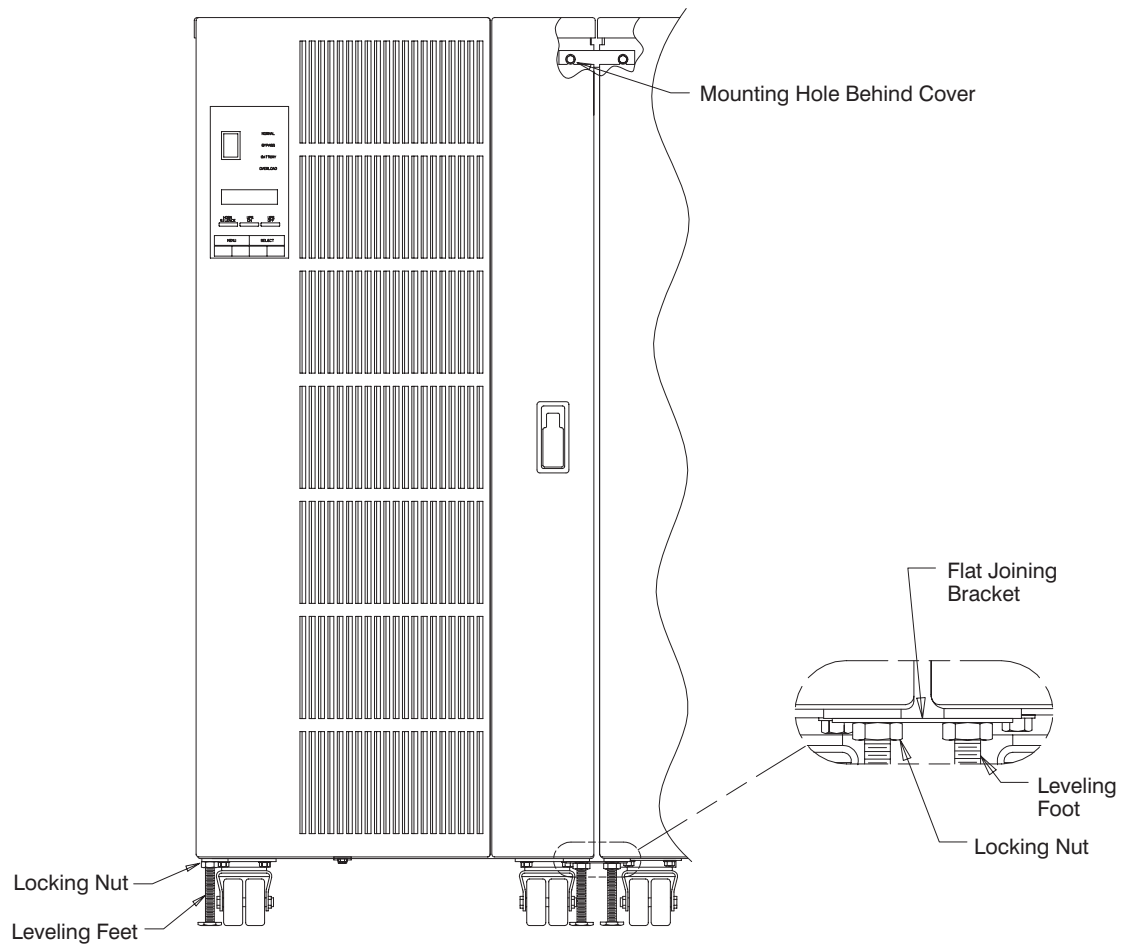

Figure 18. Cabinet Joining Detail (Front View)
20. Install one of the angled joining brackets at that location with the screws just removed (see Figure 18).